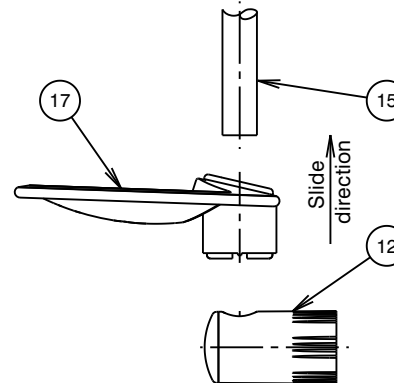

Fig.2
- ii) Insert small end of wall plugs (9) into drilled holes and tap until flush with surface.
- ii) Insert small end of wall plugs (9) into drilled hole and tap until flush with surface.
- 5) Remove bottom mounting base (12) from shower rail (15). Slide soap dish (17) into shower rail (15) as shown in Fig.2. Fit bottom mounting base (12) back into shower rail (15).
- 6) Remove the caps (13) & (14) from the top mounting bases (11) and bottom mounting base (12) then insert screws (10) through the front of mounting bases. Insert the screw ends into the wall plugs (9) installed and tighten the screws (10) to ensure mounting based firmly against wall tile face. Fit cap (13) back into top mounting base (11). Fit cap (14) back into bottom mounting base (12).